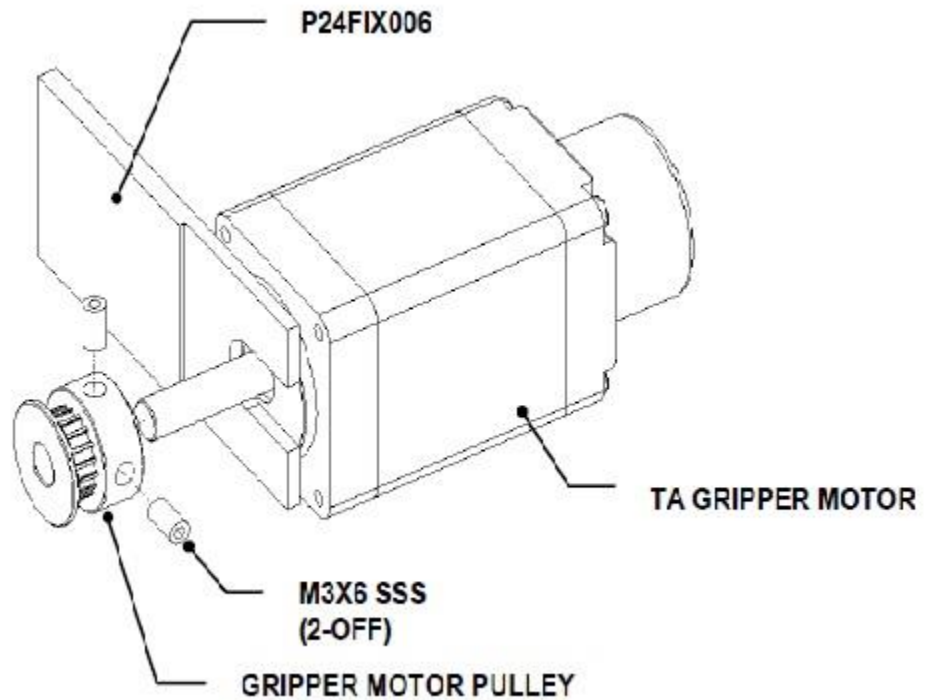

Figure H-24: Gripper Motor Pulley
3. Remove the Gripper Motor Pulley (Figure H-24).